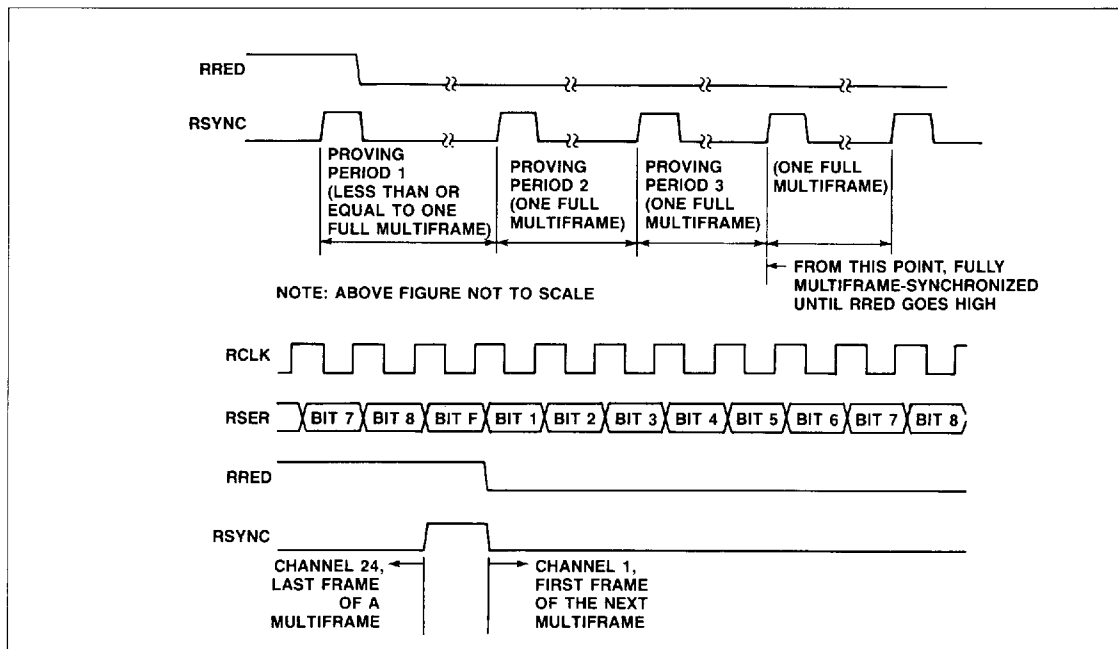

Figure 9. Receive Frame Synchronization Timing—T1 Mode (R8070/RT9170 Interface)
**T1 Mode (T1/CEPT input high).** The receive data (RSER) is processed serially and sampled at the negative edge of RCLK at a rate of 1.544 MHz. The R8070/RT9170 accomplishes multiframe synchronization at the third assertion of RSYNC after RRED (internally delayed) goes low. RSYNC is synchronous with the rising edge of RCLK and the first "F" bit of a multiframe. Figure 9 illustrates the timing.